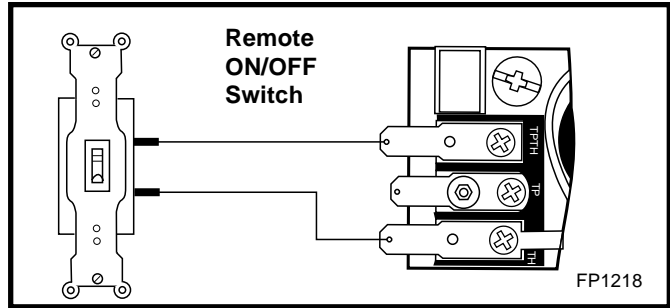

Fig. 7 Remote switch wiring diagram for R models.
3. Connect wiring to gas valve. (Fig. 7)